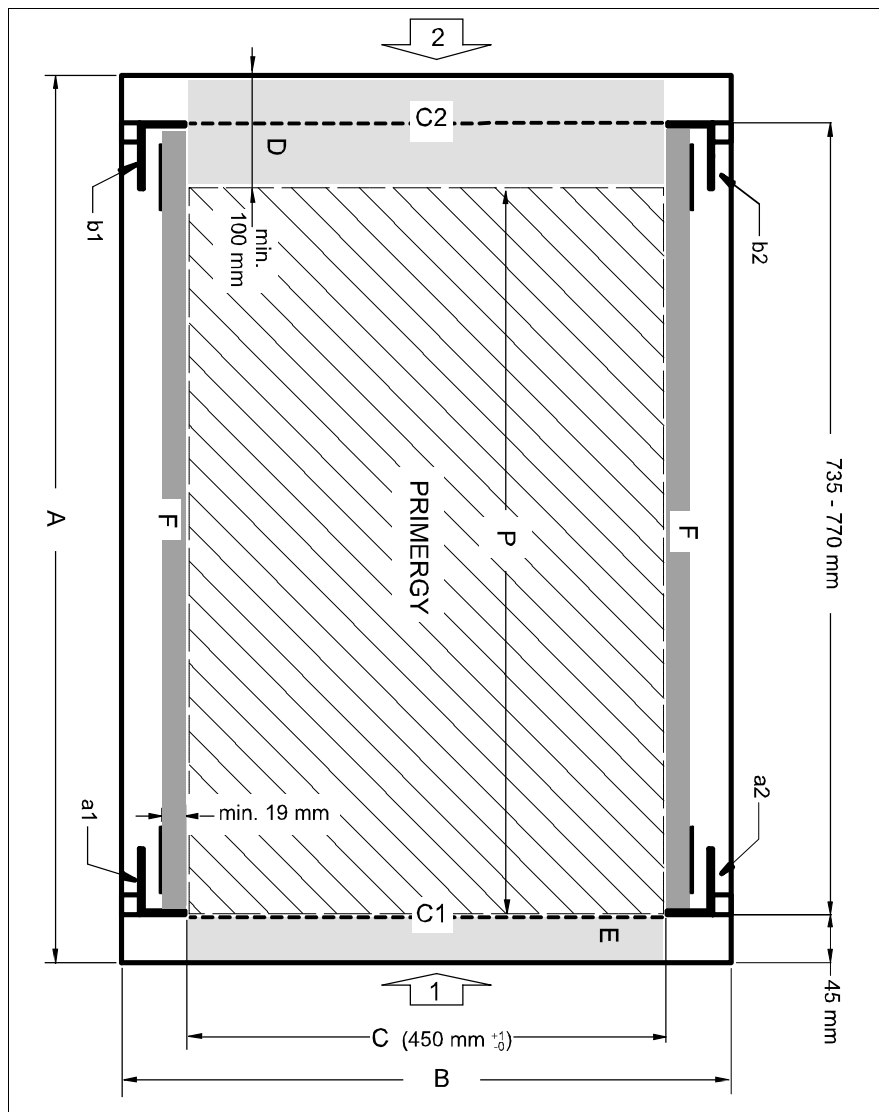

Figure 2: Mechanical requirements
- Installation dimensions (see the dimensions shown in figure 2 on page 38):